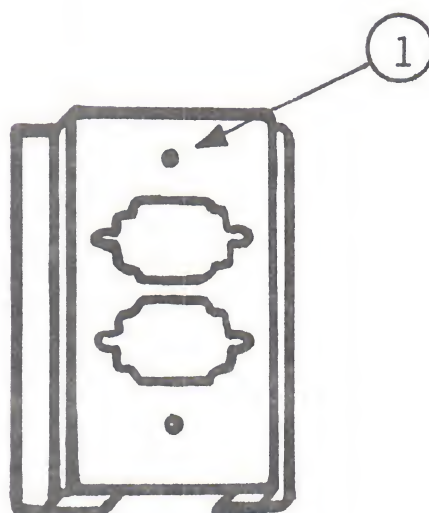

FIGURE 2
2. Locate a set of four pins near the top right edge of the interface card (see Figure 2, #1) and slide the slip-on connector onto the pins.
4. Slide this connector onto the second set of pins (see Figure 2, #2) on the interface card to the left of the first cable you connected.
2. Find the front piece of the two-piece connector clamp (See Figure 2). The top is the end where the screw hole is nearer the edge (see Figure 2, #1). Put the "D"-shaped connector and nut plate right up against the top opening. The connector should be in direct contact with the clamp, the nut plate should be directly behind the connector, and the part of the connector with the nine small holes in it should be protruding through the opening in the clamp.